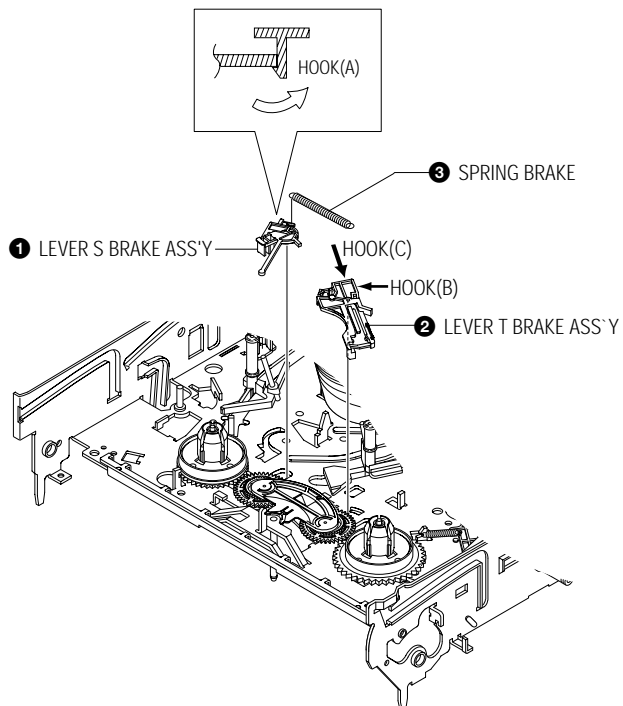

Fig. 2-25 Lever Brake S, T Ass'y Removal
- 1) Remove the Lever Brake S Ass'y (Refer to Fig 2-25).
- 2) Remove the Spring Tension Lever ❶.
- 4) Lift the Lever Tension Ass'y ❷ & Band brake Ass'y ❸.
- 1) Release the Hook [A] and the Hook [B], [C] in the direction of arrow as shown in Fig 2-25.
- 2) Lift the Lever S, T Brake Ass'y ①, ② with spring brake ③.